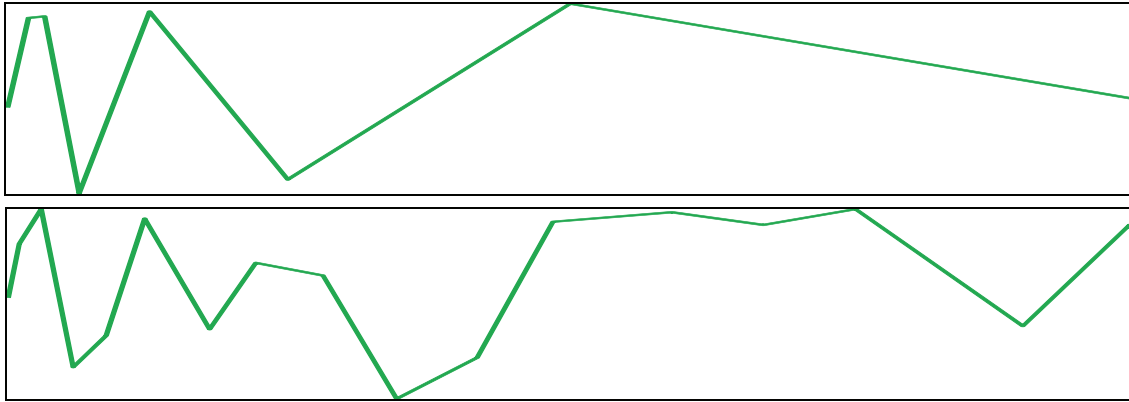

Figure 1: Output from two different Verilog-AMS simulators
*Question:* Why will this not give what is desired? The results from two simulators are shown in Figure 1.
The sine wave does not look like a sine wave because the simulator is taking time steps that are too large. However, the results are "correct" in the sense that the values computed by the simulator do fall precisely on the desired sine wave. However, the very low density of time points makes it very difficult to correctly interpret the simulation results. In Figure 1 the time points are where the slope of the output changes. Recall that usually by default, the waveform viewer plots a straight line between the results at each time point. Given nothing else in the circuit or no other constraints on the simulator, the simulator's goal is to choose as few time points as possible while satisfying the equations presented, so that the simulation can complete in the shortest time possible. So, had there been more to this circuit, where more equations had to be satisfied, it is *likely* that more timesteps would have been required and the sine wave would have been traced more faithfully. "Likely", however, is not a word we like to use in verification.